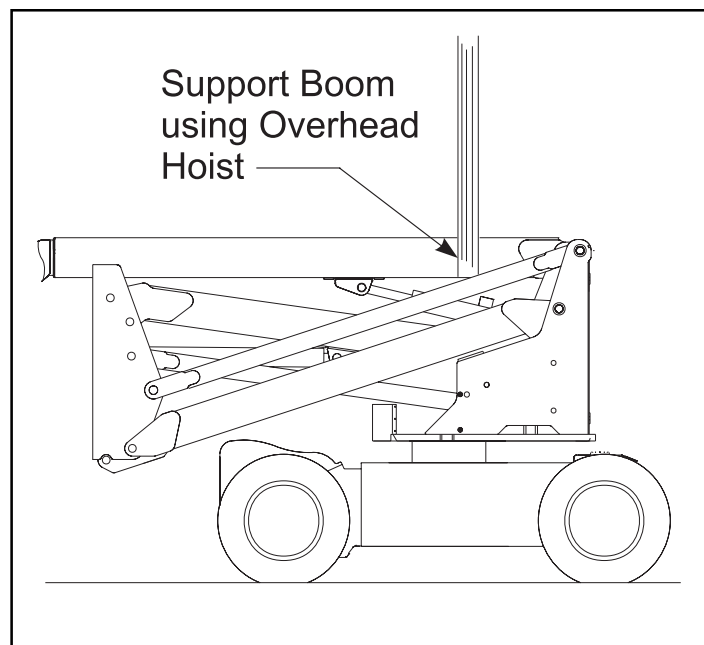

Figure 3-27: Removing Boom Extend Cylinder
1. Use an overhead hoist or crane to support the rear of the boom (Figure 3-27).